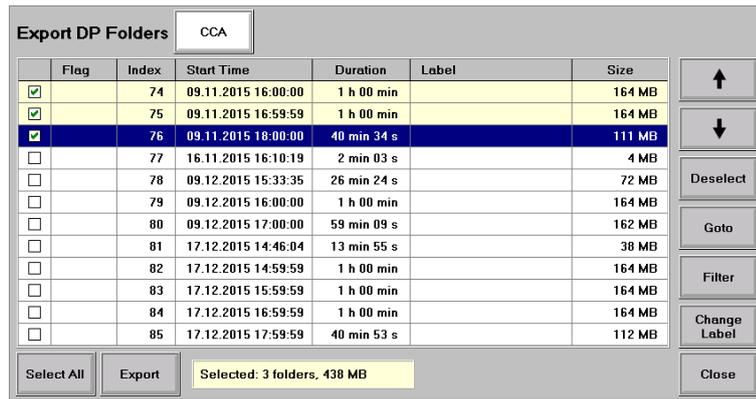

Figure G.5: DPShell. Choice logging records to send
- 1.4.4 If advanced logging option (Data Logger Station) is used (for more details see Section H.1, page 319), after ticking “Data Logger Records” box and pressing “OK” button the following dialog window will appear (see Figure G.5):